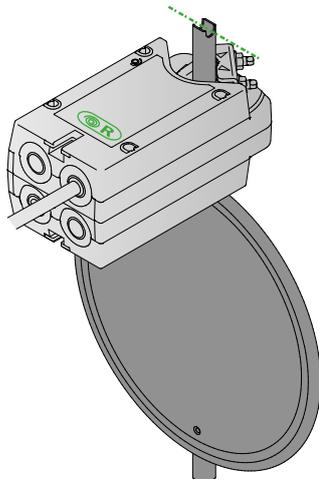

Figure 9. Standard installation (NC), damper closed with jumper to the right.
Positioning of damper blade and locking strip, see figures 9 and 10.
1. Standard installation of damper motor (NC **ⓂR**) Damper blade installed in closed position, see Figure 9.